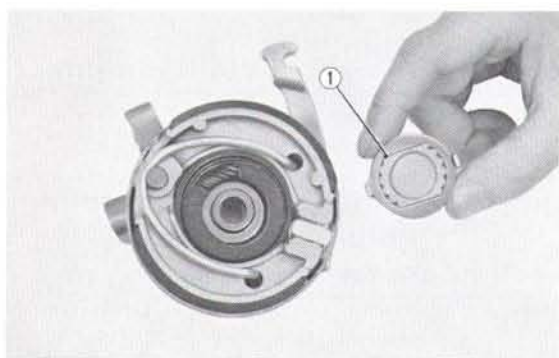

Fig. 4.3 ① Speedometer gear
5. Remove the speedometer gear from the front brake panel. (Fig. 4.3)